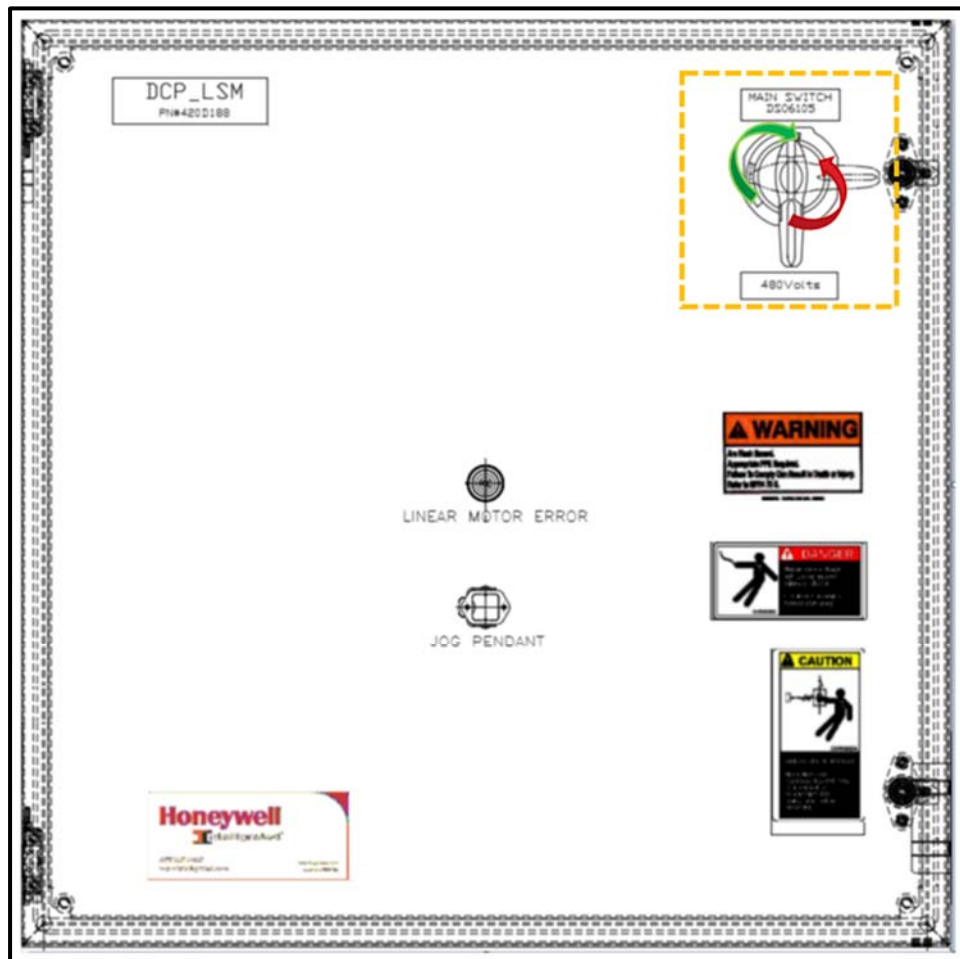

Figure 3-4 Cycling the DCP\_LSMxx Disconnect Switch to Un-Latch PLC
3. Finally, to un-latch the condition in the PLC, the Operator must cycle the associated DCP\_LSMxx Main Disconnect Switch from **ON** → **OFF** → **ON** as shown in orange dashed inset of ~~Figure 3-4~~ **Figure 3-4**.